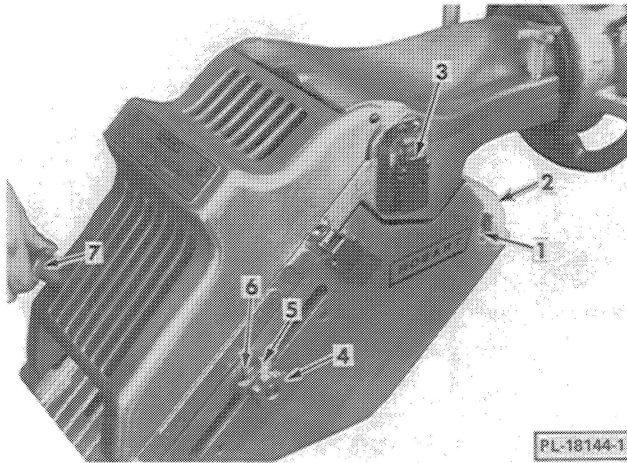

Fig. 8
- Remove the two cup shaped metal cores (if supplied) from the paper roll. Insert metal spindle (1, Fig. 8) through core of paper roll (2, Fig. 8). Place roll with spindle in notches so that paper unrolls over top of roll (not from underneath side).
- Set the length adjustment by loosening the lock knob (5, Fig. 8) and then turning the outer knob (4, Fig. 8). The range of loaf size is from 1/2 pound to 1-1/2 pounds
or any increment in between. A pointer indicator (6, Fig. 8) shows approximately the 1/2, 1 and 1-1/2 pound settings.
7. An interlock knob (7, Fig. 8) attached to the cover, activates the safety interlock which prevents operation of the knife. To operate, close cover and lock it into place. Depress knob and rotate 90° clockwise into locked position. This will release the interlock allowing the knife to operate.
2. Depress interlock knob (7, Fig. 8) and rotate 90° counterclockwise.
6. Release the two orifice clamps (3, Fig. 8) and unscrew the two clamping knobs, holding the upper orifice slightly open to clear adapter, withdraw cover and orifice away from chopper to clear "L" shaped safety lock. Lift off cover and orifice.